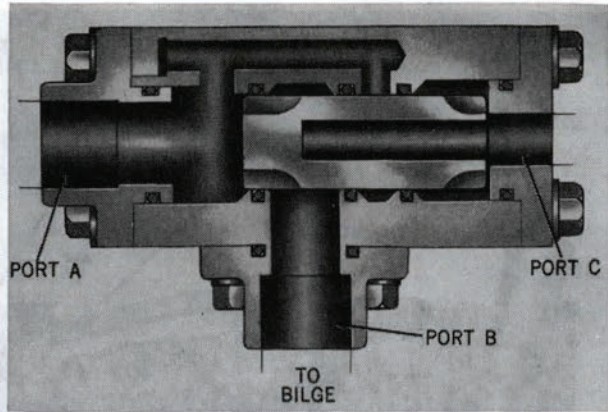

Figure 160—Lifting Cup Loading Valve—Sectional View.
**Lifting Cup Loading Valve.** The lifting cup loading valve, figures 160 and 161, is a two-position plunger that is moved from one end of its cylinder to the other by air pressure. In one position, the valve connects the pilot valve in the torpedo stop cylinder to a vent line to bilge. This occurs when the stop piston rod forces the pilot valve off its seat to vent the space above the firing valve lifting cup. In its other position, the lifting cup loading valve connects ship service air supply from the anti-refire valve to the pilot valve. This happens when air pressure from the poppet valve operating unit moves the anti-refire plunger. With the lifting